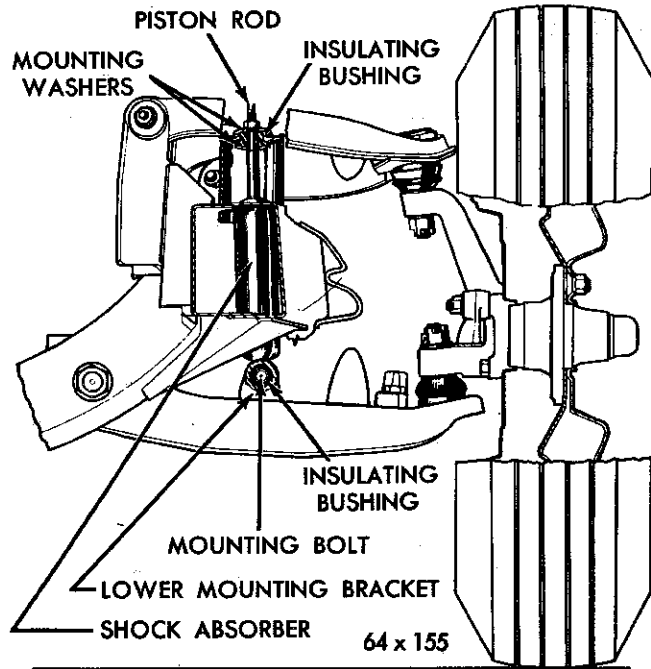

Fig. 9—Front Shock Absorber
(1) Refer to Figure 9 and disconnect the upper end of the shock absorber piston rod.
(2) Compress the shock absorber by pushing the rod through the shock absorber support.